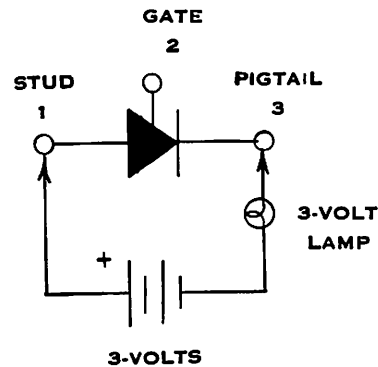

Figure 8
Connect the plus lead to the stud (1), connect negative lead to the pigtail (3) as shown in Figure 8.